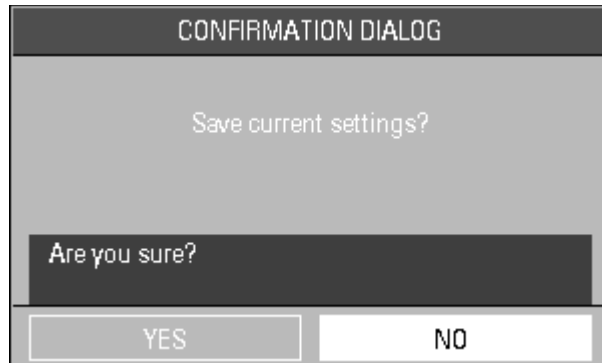

FIGURE 2-13 Confirmation Dialog Box
1. Select **SAVE CURRENT** from the **MONITOR SETUP** menu. The confirmation dialog box in FIGURE 2-13 is displayed.